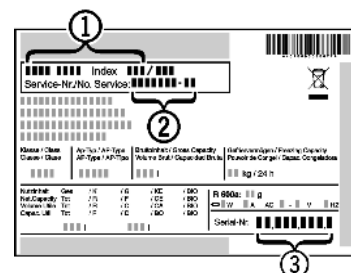

Fig. 10
- Read the appliance designation *Fig. 10 (1)*, service No. *Fig. 10 (2)* and serial No. *Fig. 10 (3)* off the type plate located inside the appliance on the left-hand side.
- ▶ Notify the customer service, specifying the fault, appliance designation *Fig. 10 (1)*, service No. *Fig. 10 (2)* and serial No. *Fig. 10 (3)*.